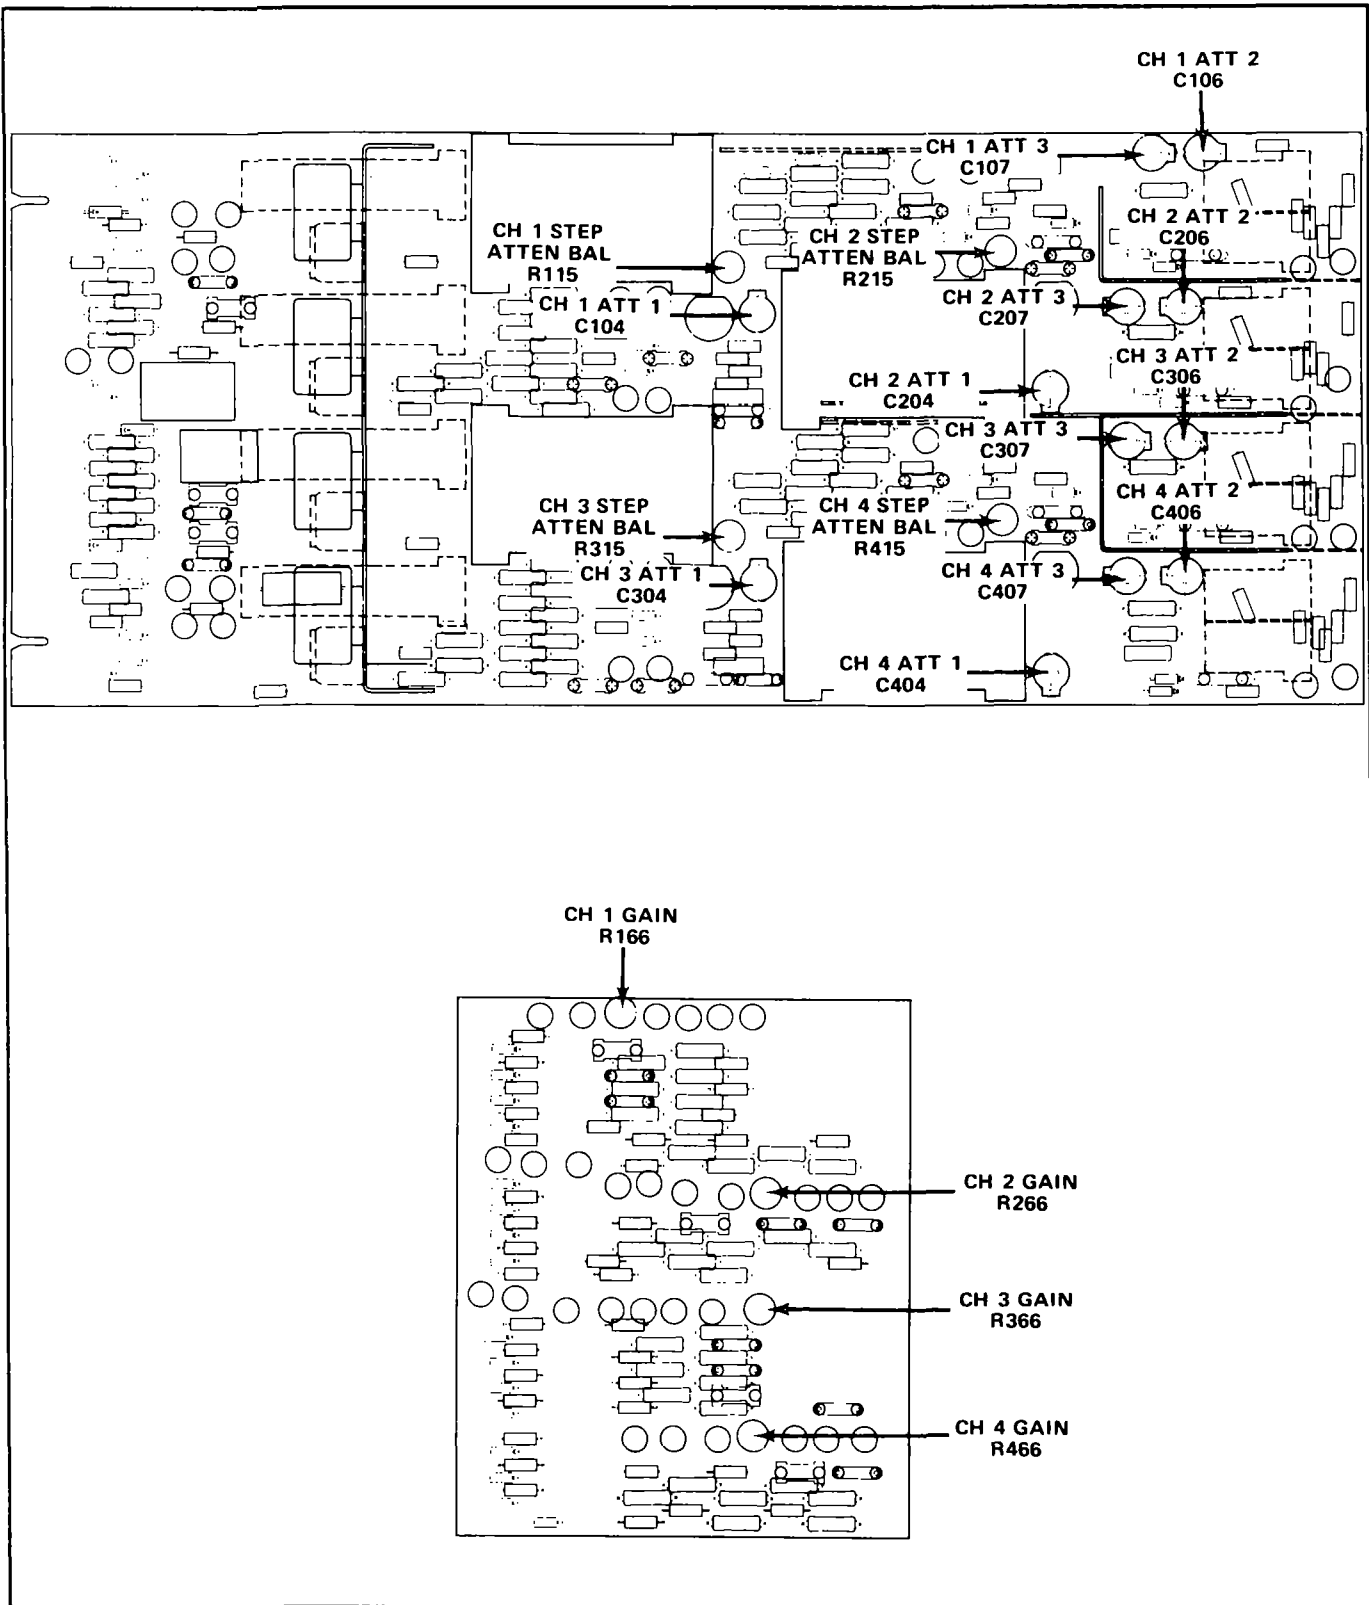

Figure 3-1. Internal adjustment locations.
2. Connect the oscilloscope to the power source for which it is wired. Set the controls as described under Initial Control Settings. Refer to Figure 3-1 for location of internal adjustments and test points.